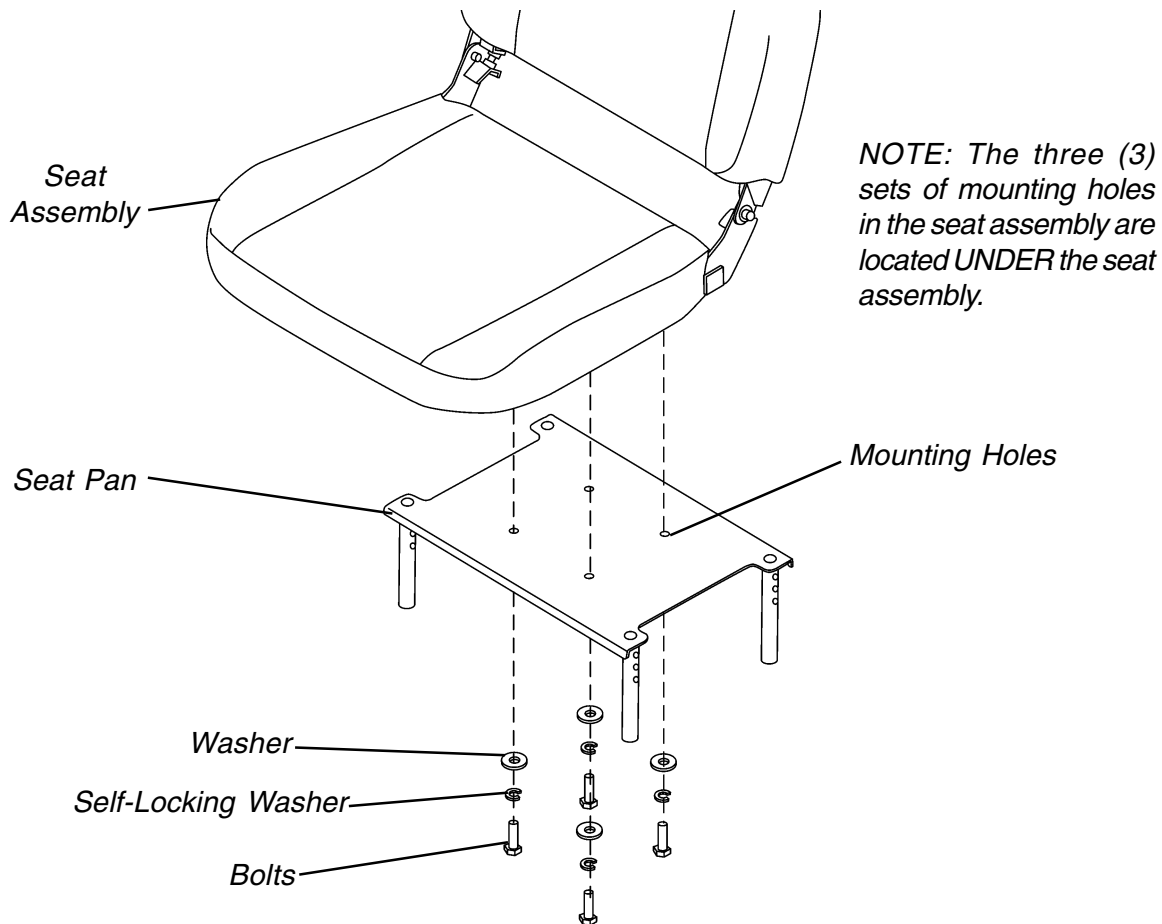

FIGURE 7 - ADJUSTING THE SEAT DEPTH
(FIGURE 7 AND 8)**
2. Remove the four (4) bolts, self-locking washers and washers securing the seat assembly to the seat pan (FIGURE 7).
6. Secure the seat assembly to the seat pan using the four (4) bolts, self-locking washers and washer. Securely tighten (FIGURE 7).